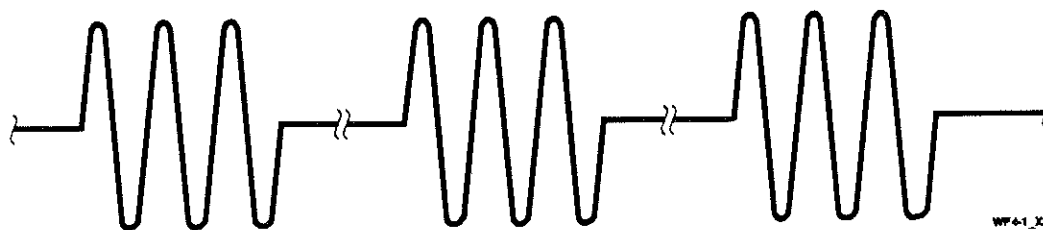
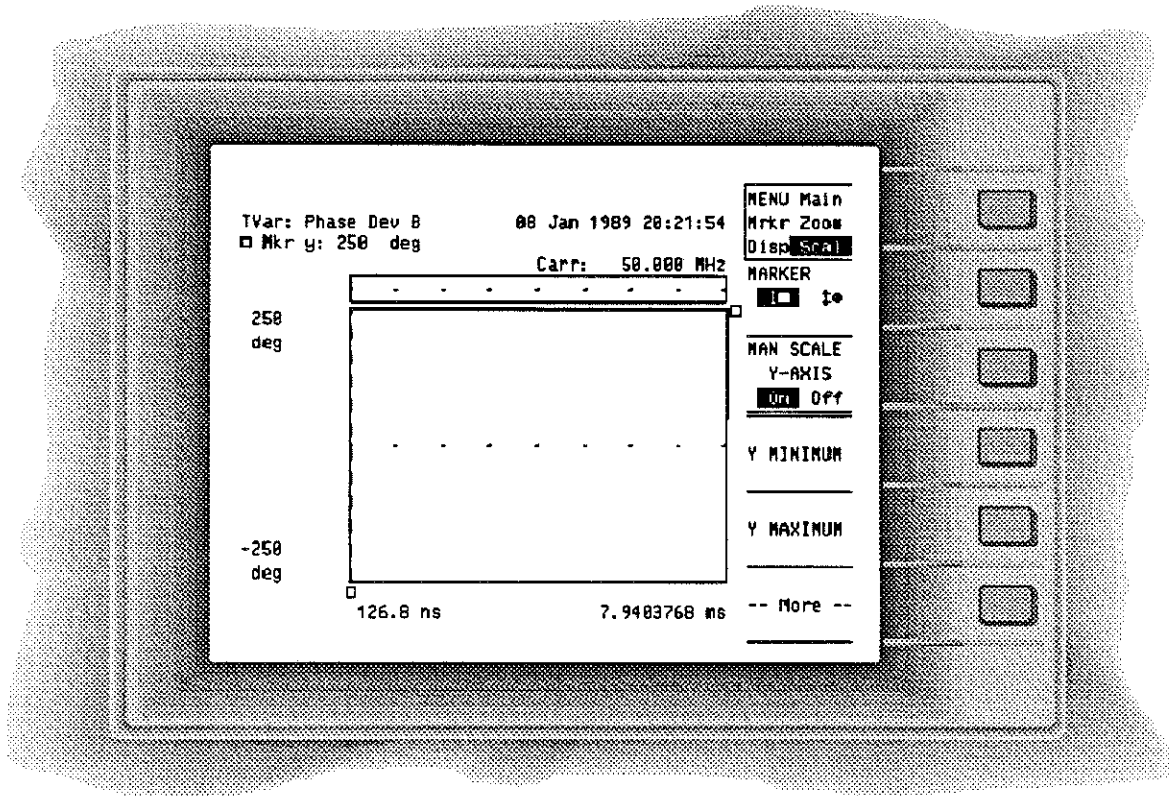

Figure 4-1. Coherent Phase Signal in Time Domain
Figure 4-2. Modulation Domain Display
Figure 4-1 shows how this signal may appear in the time domain while Figure 4-2 shows its pattern in the modulation domain.
6. Observe the graphic display of phase-deviation versus time. Each pulse-phase plot should line up exactly with every other pulse-phase plot in a straight line if a coherent-phase carrier is present (see *Figure 4-2*).